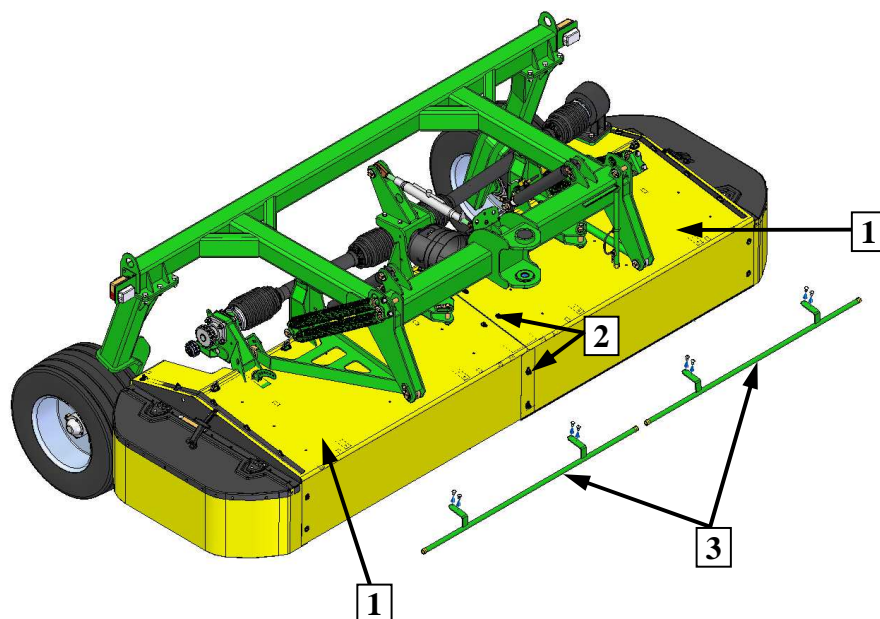

Fig. 5. Mounting safety curtain guard on the mower
SaMASZ mowers feature standard safety curtains (1) for self-fitting. In order to put the curtain properly put it on the mower and secure with catches (2) and with front guard (3) **Fig. 5**. Examine condition of curtains and their mounting on a regular basis. Fix immediately if damaged and replace if missing. Do not operate mower without safety curtains.